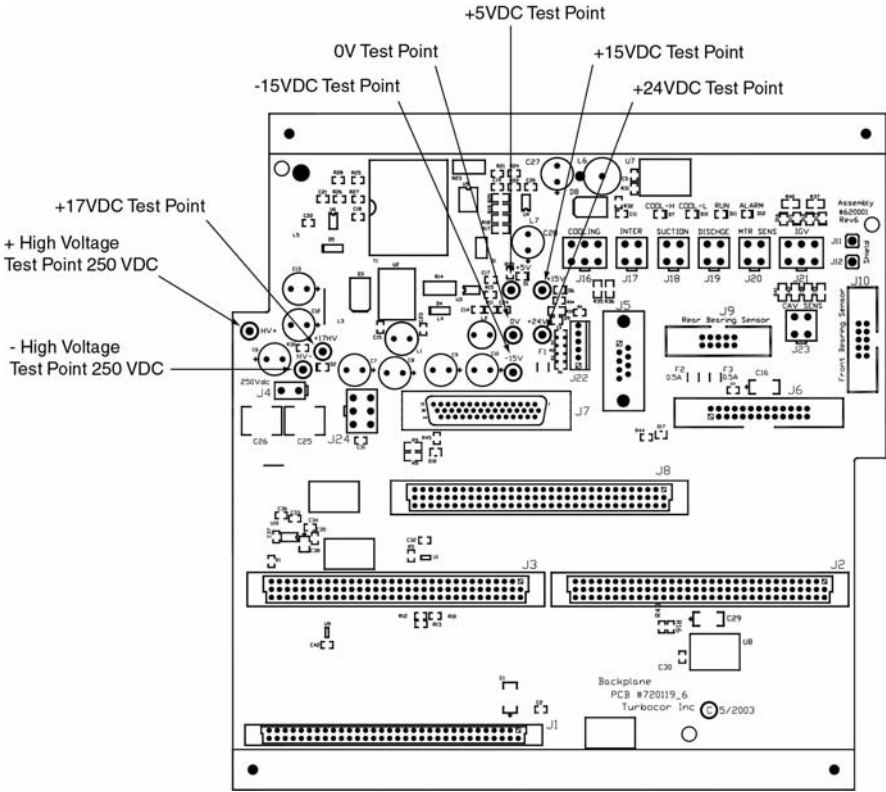

Figure 20 Backplane Test Points
3.	On the backplane, check the status of the following LEDs: (Refer to Figure 20.)  5V - illuminated 15V - illuminated 17V - illuminated 24V - illuminated